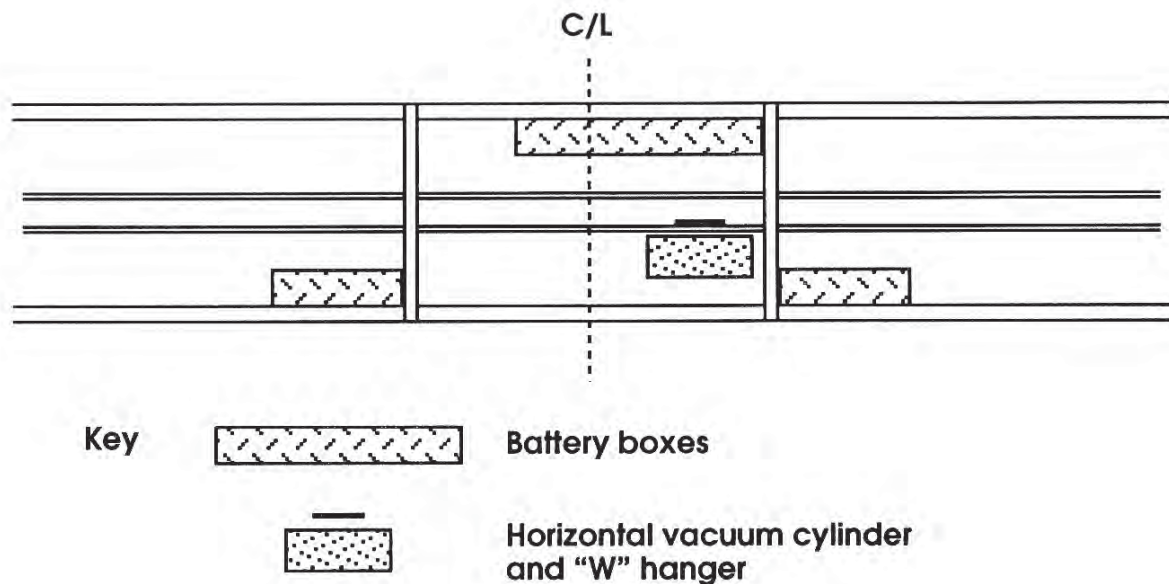

Figure 3 View on underside showing L&Y style vacuum brake conversion
- Arrangement 2) Using a large horizontal cylinder of Lancashire and Yorkshire Railway origin (see figure 3) retaining the original battery boxes. This cylinder was supported on one side by a frame resembling nothing more than a wagon "W" iron!